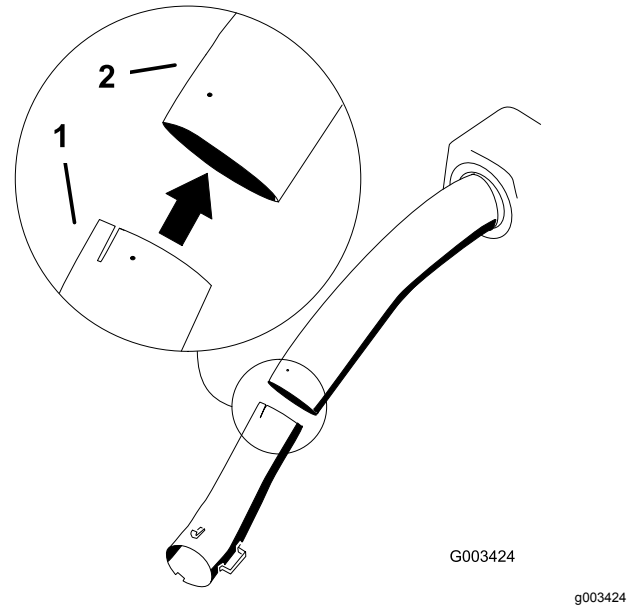

Figure 50
7. Install the lower tube into the upper tube (Figure 50).